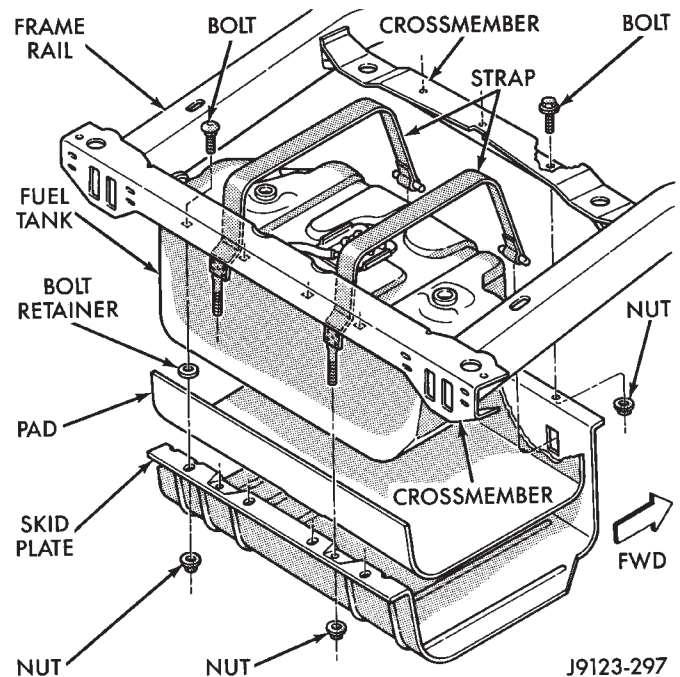

Fig. 8 Fuel Tank Skid Plate
- (1) Position a support under the fuel tank skid plate.
- (2) Remove the nuts that attach the skid plate to the straps and to the crossmembers (Fig. 8).